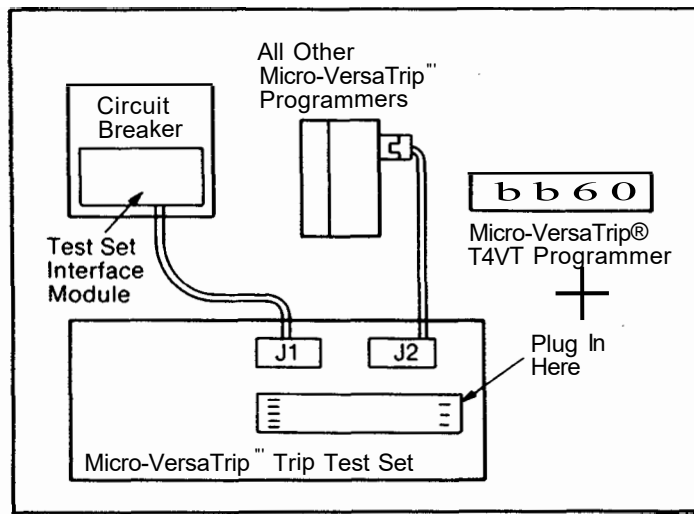

Fig. 5. Connection for "COMPLETE SYSTEM" Test
3. It is not necessary to make any connection to the circuit breaker for "PROGRAMMER ONLY" testing. The Fig. 5 connection must be used if "COMPLETE SYSTEM" tests are to be run.
## "COMPLETE SYSTEM" Test-Mode "2" (See Fig. 5)